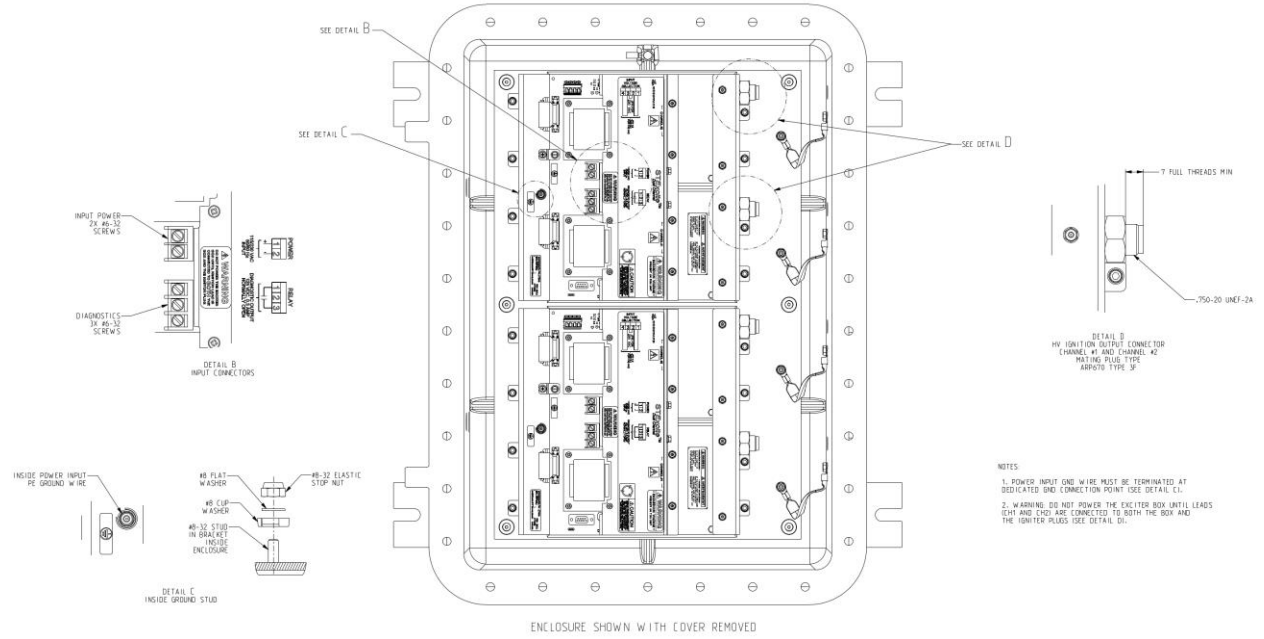

Figure 1-3. Outline Details
4. Attach the ignition lead ends to the high energy ignition output ARP 670 (see Figure 1-3 for details). Use a tool to fully seat the nut on the lead to the output connector, so it cannot be loosened by hand.
6. Make sure that a safety ground connection is made through the power connector or through the terminal provided on the enclosure (Figure 1-3). Bonding connections are provided on the enclosure, and it is intended that the installer do the bonding in accordance with local regulations.
8. Connect the input power leads from the turbine combustion controller to the power input terminals (Figures 1-3 and 1-4) using 1.5 mm²– 2.1 mm² (16 AWG – 14 AWG) wire with ring terminals suitable for #6 screws. Torque terminal screws to 1 – 1.35 Nm (9-12 lb-in).
9. If diagnostic relay output is planned to be used, connect the diagnostic output leads for the turbine combustion controller to the relay output terminals (Figures 1-3 and 1-4) using 1 mm² (18 AWG) wire with ring terminals suitable for #6 screws. Torque terminal screws to 1 – 1.35 Nm (9-12 lb-in).
10. Connect earth ground to the PE Ground lug as shown in Figure 1-3. Use a 30 cm long by 13 mm wide (12 inch long, 1/2 inch wide) or shorter flat hollow braid or comparable surface area wire. Use gauge as large as power wires or larger.